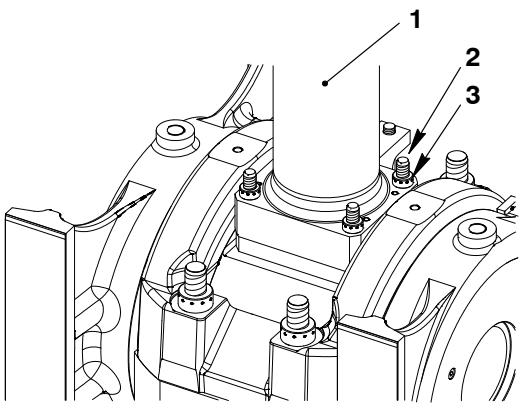
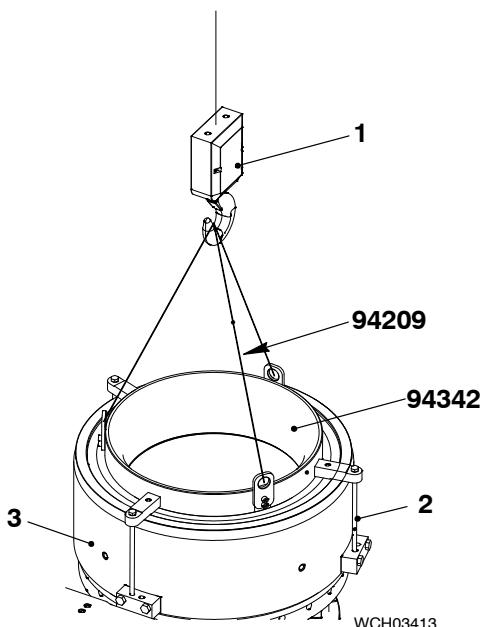

Fig. 15
Fig. 16
- 39) Put oil on the four elastic studs (2, Fig. 15).
- 40) Attach the four round nuts (3) to the elastic studs (2).
- 41) Tighten the four round nuts (3), refer to 9403-4.
- 42) Attach the engine room crane to the tool (94209, Fig. 16).
- 43) Remove the three bolts (2).
- 44) Operate the engine room crane to remove the tool (94209) from the cylinder liner (3).